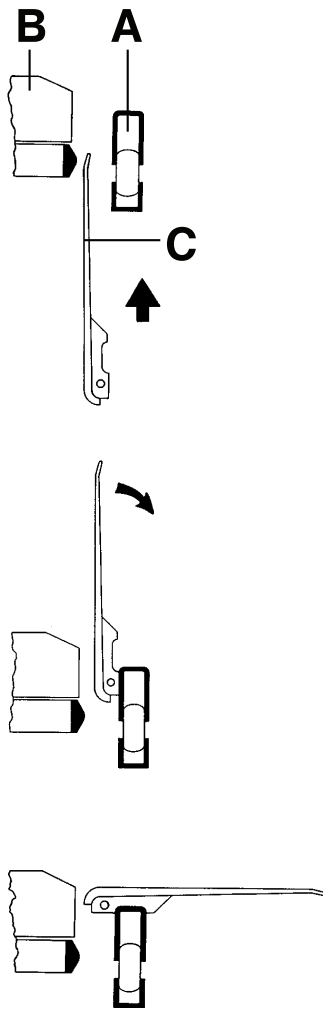

Figure 6 – Transfer the patient
2. Lower the siderail (A) to the lowest position (Figure 6).
3. Raise the transfer board (C) from the bottom while you lift from the top.
Note - The transfer board (C) is located between the siderail (A) and the mattress (B) (Figure 6).